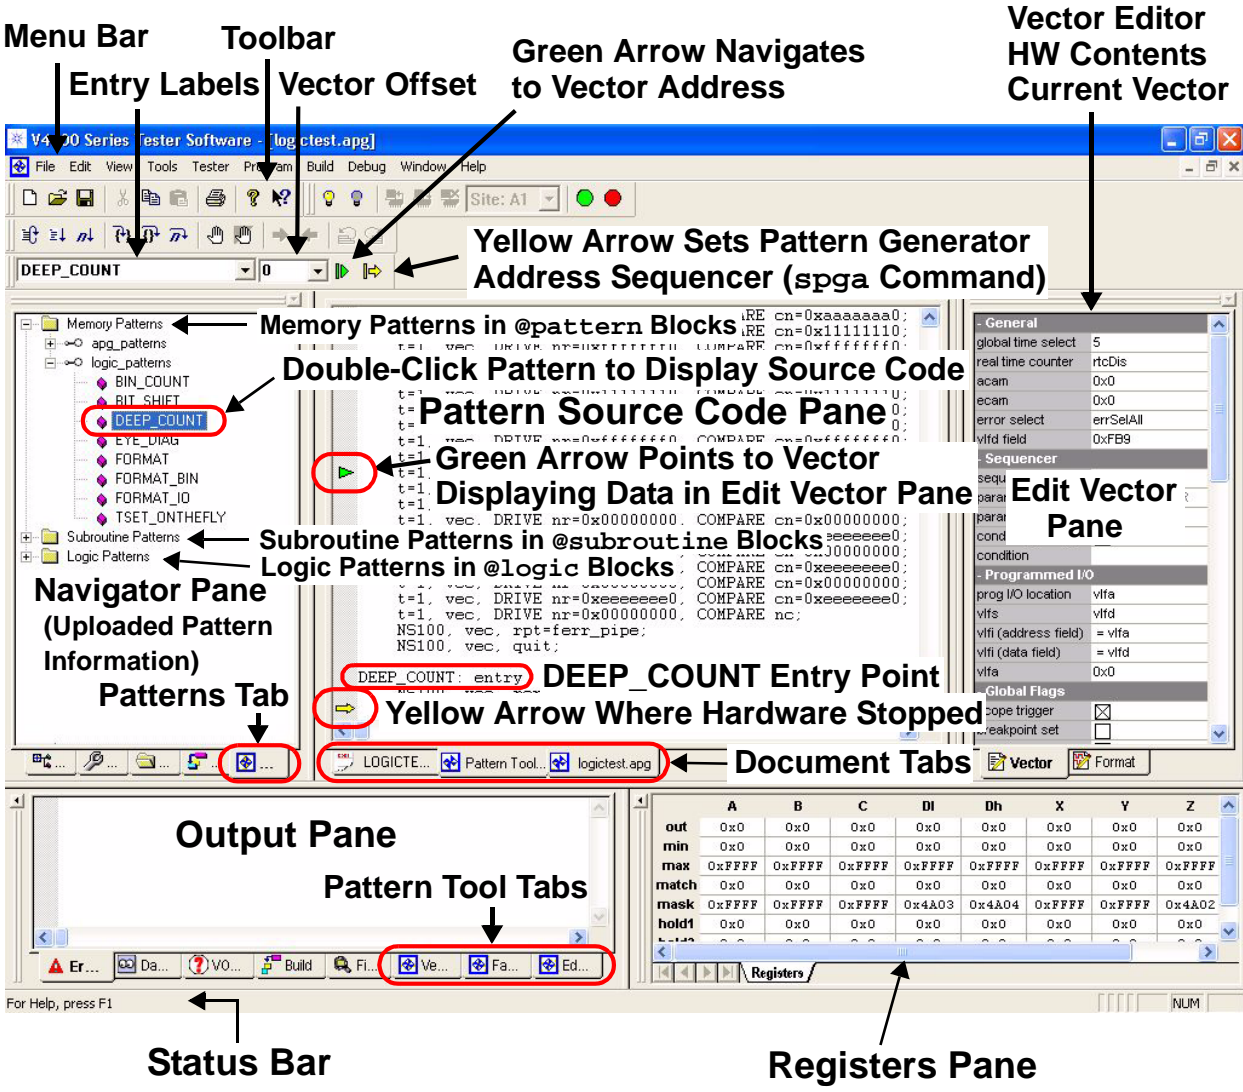

Figure 5-54. Pattern Tool Main Window
- 4 Double-clicking on the `DEEP_COUNT` entry point displays its source code in the Pattern Source Code Pane (similar to Figure 5-54). The yellow arrow in the Pattern Source Code Pane identifies the next vector to be executed. The green arrow indicates the vector we have navigated to.
- 7 In the Patterns tab  in the Navigator Pane, double-clicking the DEEP_COUNT entry point displays it once again in the Pattern Source Code Pane (similar to Figure 5-54 on page 197).